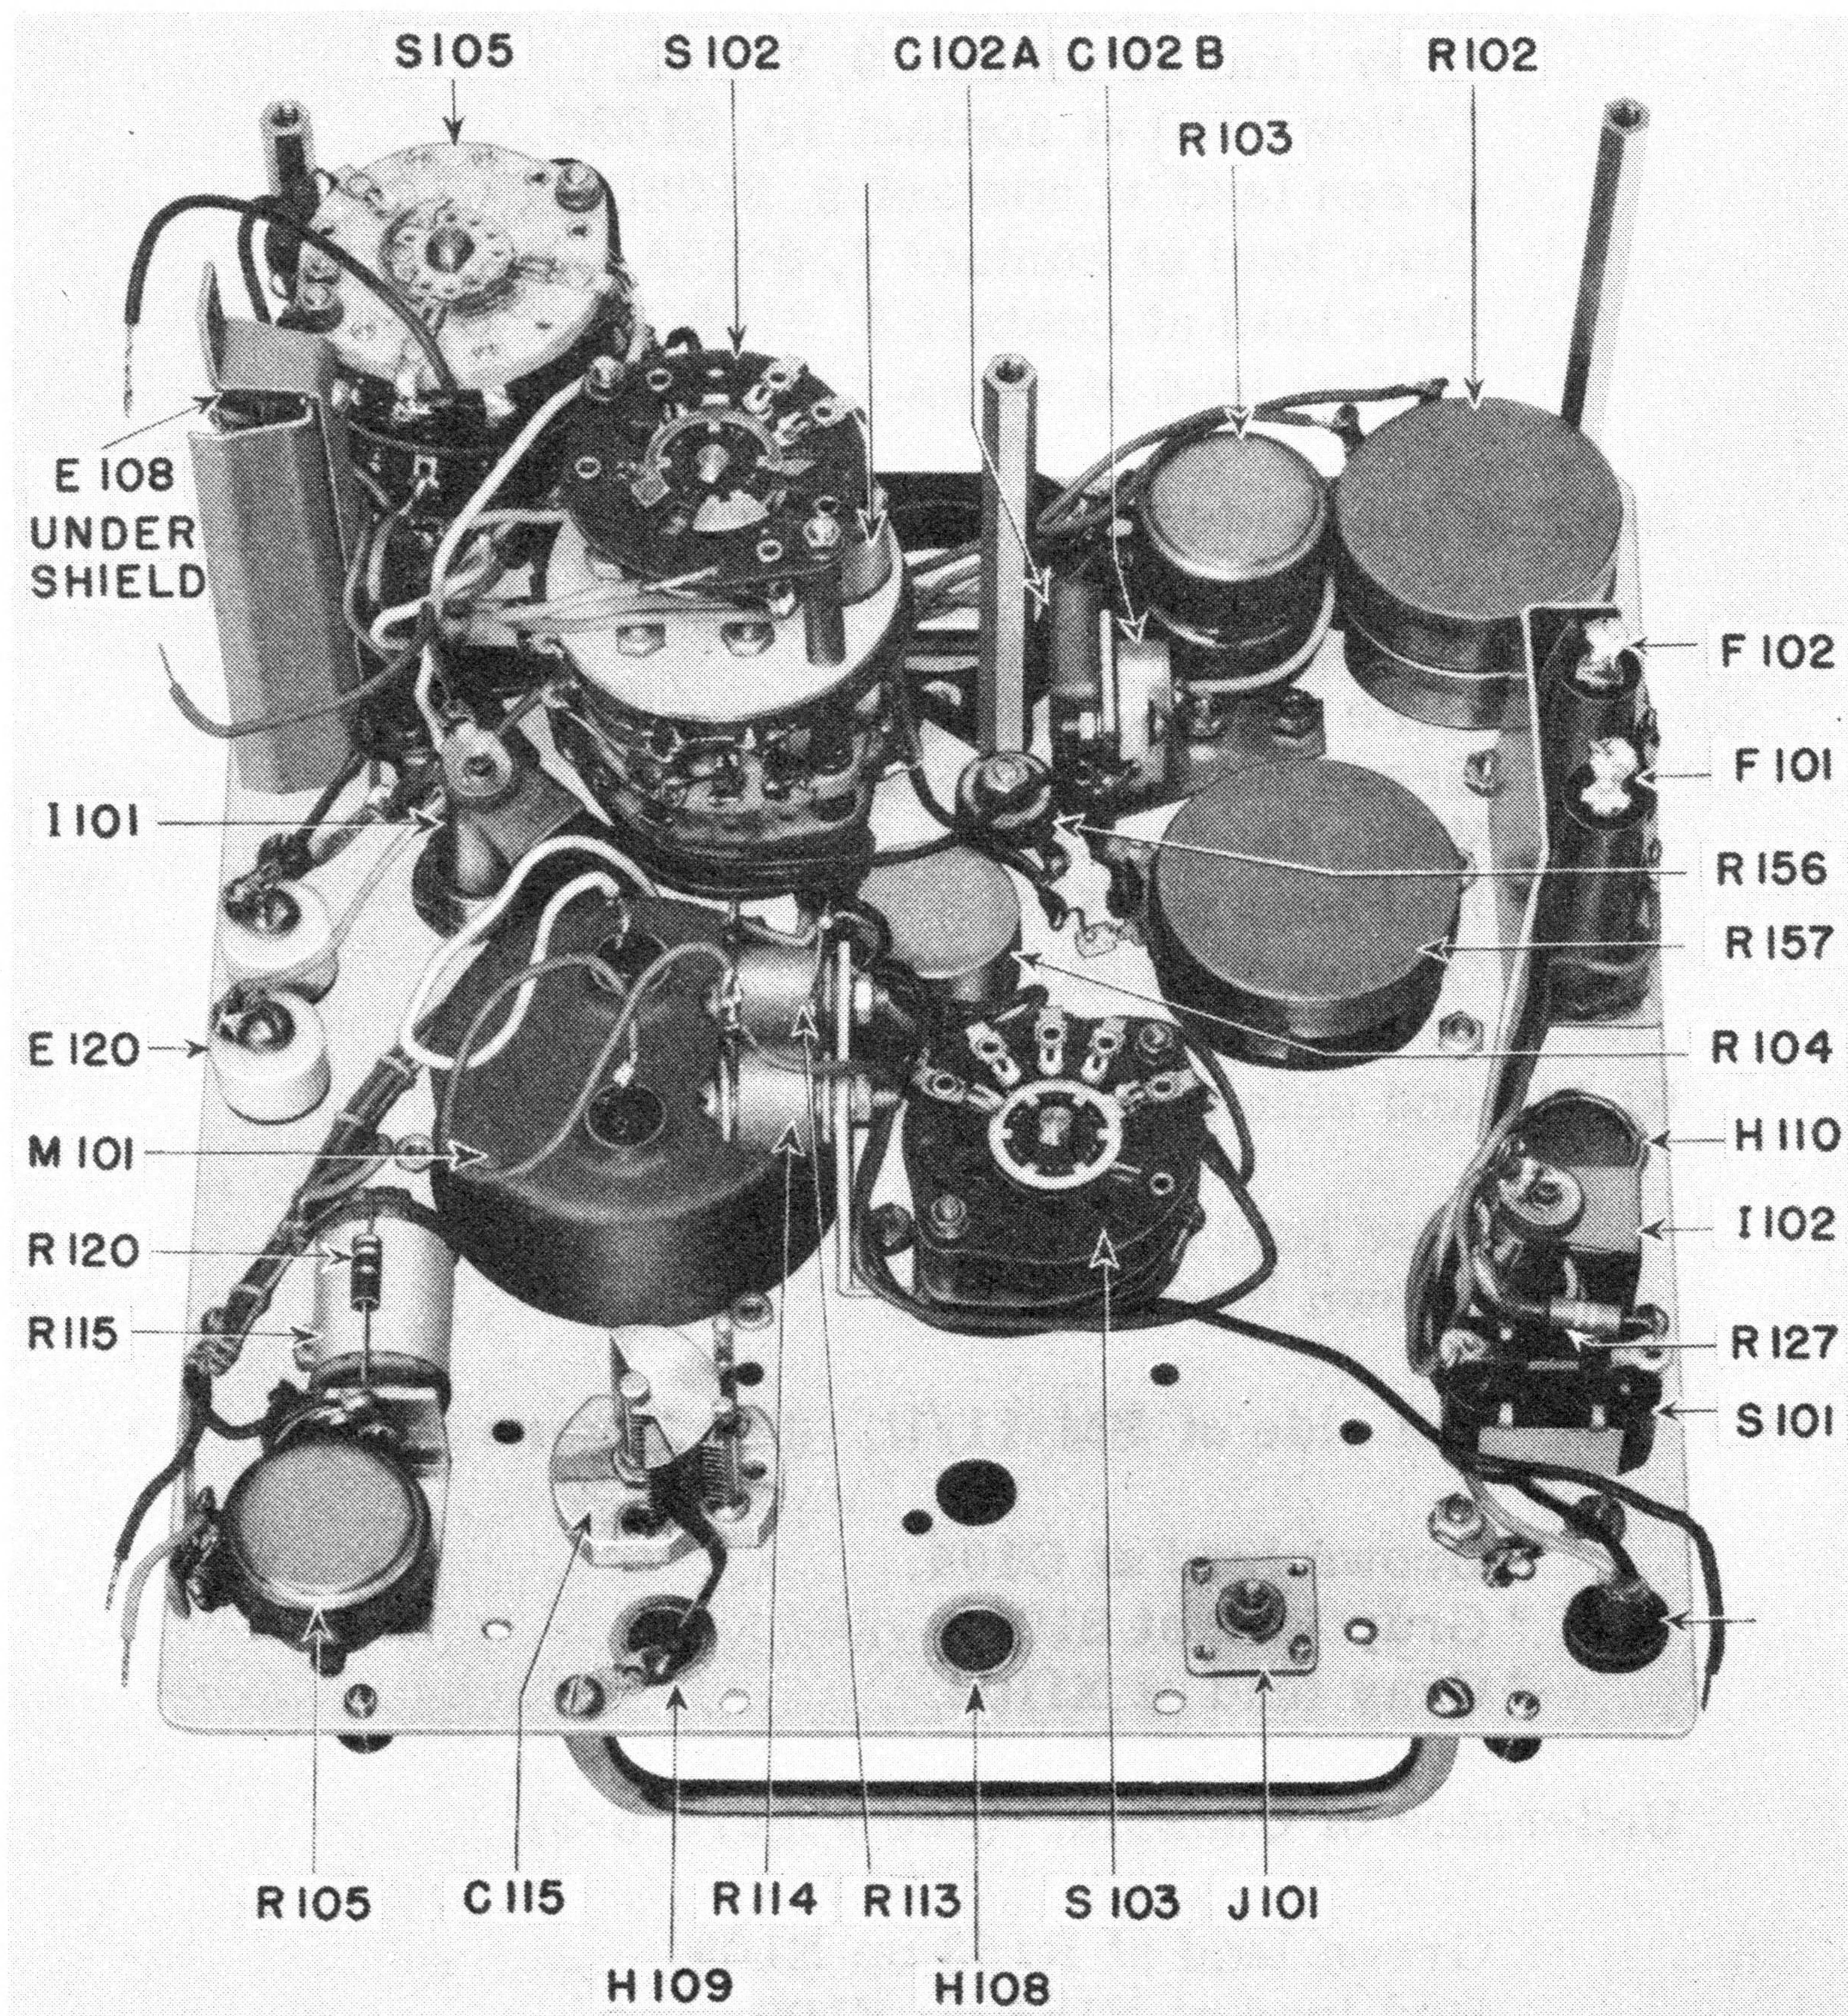

Figure 5-10. Bridge, ZM-11/U, Panel Assembly, Unsandwiched.
1. CHASSIS REMOVAL - UNSANDWICHING - Review of Paragraphs 9a through 9k, above, indicates that many of the major parts of the Bridge ZM-11/U have been made accessible without separating the panel assembly from the chassis assembly as has been done in the companion views, Figures 5-10 and 5-11. Careful study of other situations should be made before attempting this unsandwiching operation for, as will be seen from study of the unwiring schedule below, many disconnects are required before the units can be separated as has been done in the illustration.